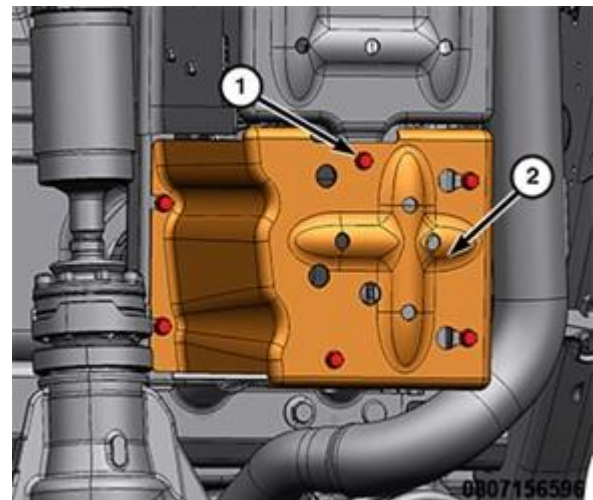

Figure 17 – Skid Plate
32. Remove the fasteners (1) and the skid plate (2) from the vehicle (Figure 17).